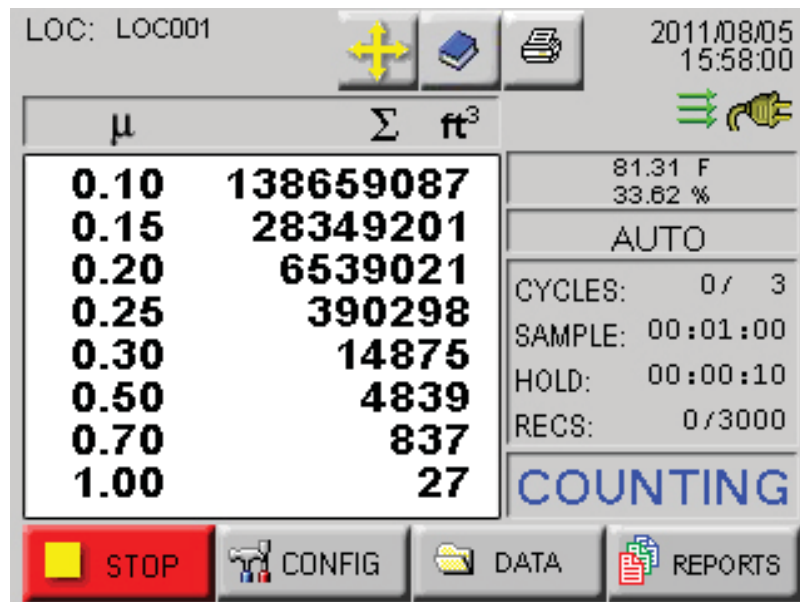

Figure 6-11 Counting mode
- **START/STOP:** Press START button on the screen to start counting. When running, the instrument will display “COUNTING” in the lower right corner of the screen as shown in Figure 6-11. Press the STOP button to stop counting; the word “STOPPED” will display.